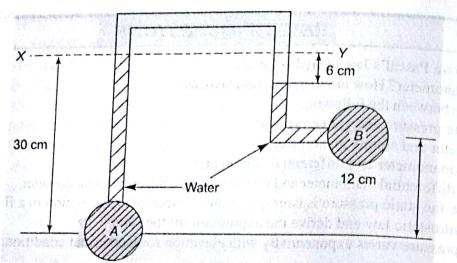

Figure 12.19
- 12.5 Water is flowing through two different pipes A and B to which an inverted differential manometer having an oil of sp.gr. 0.9 is connected. The pressure in the pipe A is 2.5 m of water. Find the pressure in the pipe B for the manometer readings as shown in Fig. 12.19.